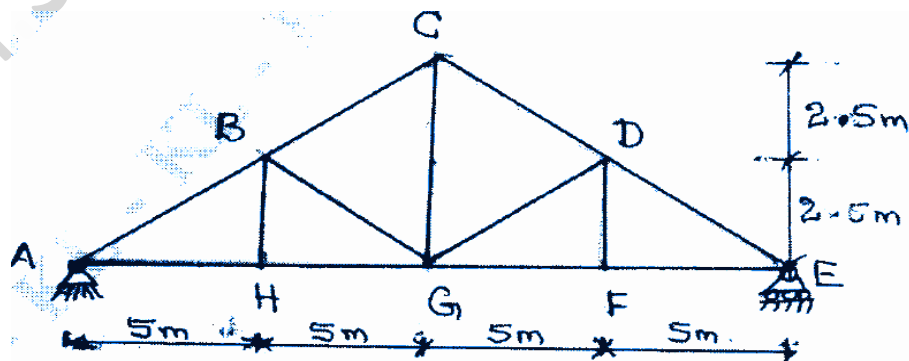

Figure 1
- 6 The centerline of a roof truss is shown in figure 1. The magnitude and nature of forces under service conditions are given below. 40